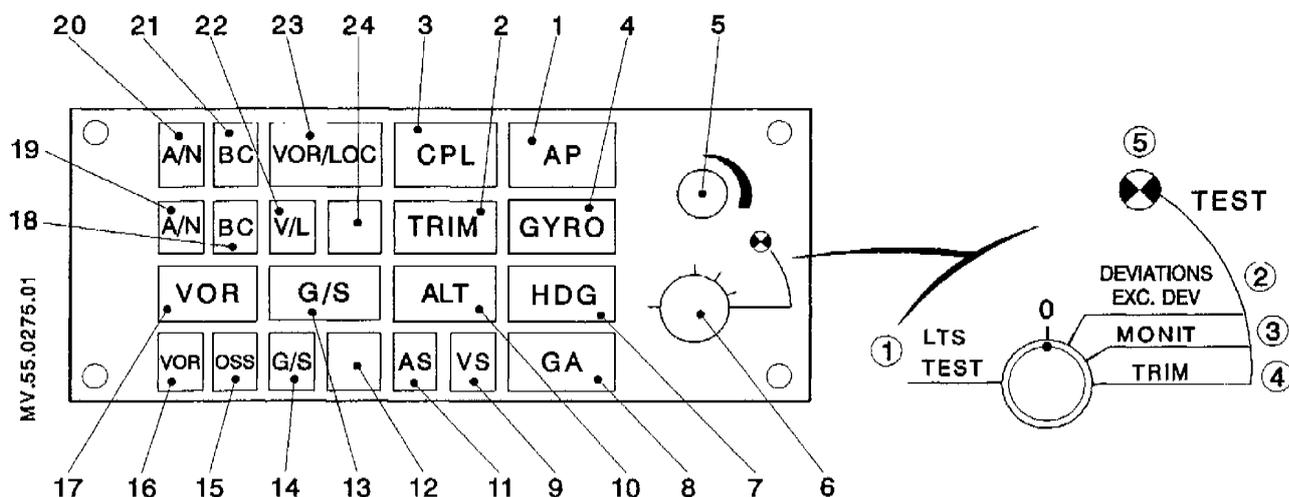

Figure 5
1.8 AP/CPL monitoring panel (Figure 5)
| <ul style="list-style-type: none"> - Test selector switch set to LTS position 1. (Detail on Figure 5) - Test selector switch set to 0 - Pitch, roll and yaw channels engaged. - Four-way beep trim button : successively actuate in each direction. - Switch off autopilot through A.P. release push-button on pilot's cyclic stick. - Then repeat this test through same push-button on copilot's cyclic stick if fitted, after re-engaging the three auto-pilot channels. | <ul style="list-style-type: none"> - Captions on control panel (Fig.1) illuminate. - Captions on monitoring panel (Fig. 5) illuminate (2.5-second time delay) - Test function caption (5) (Detail on Fig. 5) illuminates. - Test function caption (5) (Detail on Fig. 5) extinguishes. - P, R, Y, MONIT. push-button lights illuminate (Fig. 1). Captions (4) below galvanometers extinguish (Detail on Fig.2). - Check cyclic stick and relevant galvanometer pointer move in the right direction. - Captions below galvanometer illuminate. - AP caption (Fig.5) flashes for 10 seconds. - Captions on control panel (Fig. 1) extinguish. |
| <ul style="list-style-type: none"> - Pitch channel engaged - Test selector switch set to TRIM, position 4 (Detail on Fig.5). - Test selector switch set to 0 - Disengage pitch channel | <ul style="list-style-type: none"> - Relevant ON push-button light (Fig.1) illuminates - TRIM caption light (Fig.5) flashes - alternate displacements of the cyclic stick. - P push-button light (Fig. 1) extinguishes |
| <ul style="list-style-type: none"> - Pitch channel engaged - Actuate four-way button to offset cyclic stick in pitch - Test selector switch set to MONIT position 3 (Detail on Fig. 5) - Test selector switch set to 0 - Roll channel engaged. | <ul style="list-style-type: none"> - Pitch push-button light illuminates. (Fig. 1) - MONIT push-button light illuminates (Fig.1). - Cyclic stick moves in the selected direction - Cyclic stick stops moving. - Galvanometer re-centers - AP warning light flashes (Fig. 5) - GYRO warning light illuminates (Fig.5) - MONIT push-button light flashes (Fig. 1) - Pitch push-button light extinguishes (Fig. 1) - Roll push-button light illuminates (Fig. 1) - MONIT push-button light illuminates (Fig. 1). |